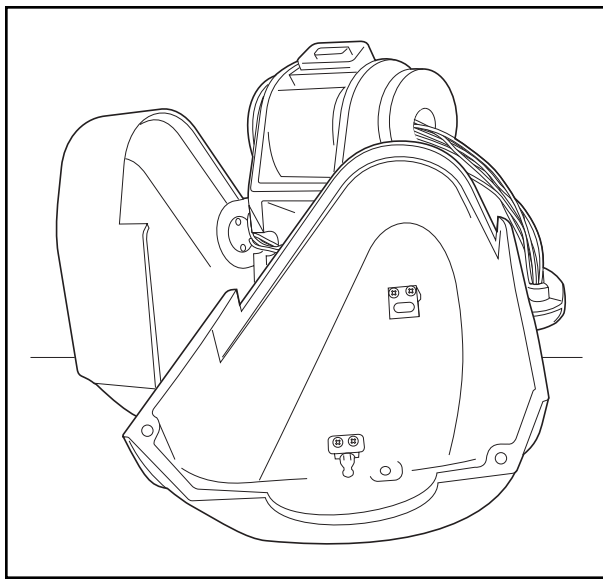

Figure 6. Hooking Cover Halves
- d. Set the covers down or hang them by the eyelets inside the covers (refer to Figure 6). The wire and hook on which to hang the covers is not provided.